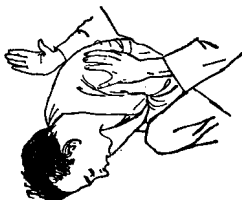

FIGURE 11.
- e. If you are not getting an air exchange, recheck the head and jaw position (Figures 5, 6, and 7). If you still do not get an air exchange, quickly turn the victim on his side and administer several sharp blows between the shoulder blades. This should dislodge any obstructing matter (Figure 11). Again sweep your fingers through the victim's mouth to remove any foreign matter.